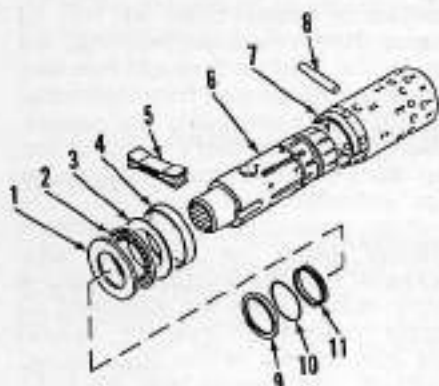

Fig. 46—Exploded view of steering valve spool, sleeve, bearings and seals.
threaded insert (7) and check ball (8). Remove valve from vise and push spool and sleeve (6 and 7—Fig. 46) assembly from bottom of housing. Remove washer (1), bearing (2), bearing race (3) and centering spring retaining ring (4)
93. Lubricate all parts with specified fluid during assembly and slide spool (6—Fig. 46) into sleeve (7) and align centering spring slots. The fit of these two parts is very close and turning spool slightly while inserting will aid installation. Assemble centering springs (5) in two sets of three each. With arches facing one another insert springs through sleeve and spool.
Install drive pin (8—Fig. 46) making certain ends of pin are flush with outer surface of sleeve. Install centering spring retaining ring (4), bearing race (3), thrust bearing (2) and washer (1) on spool with chamfer on inside diameter of